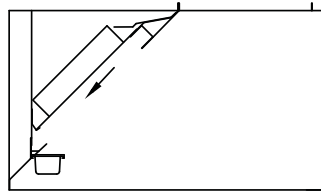

Fig. 21
3. When the filter is even with the bottom rear filter channel, set the filter into the channel; Fig. 21.